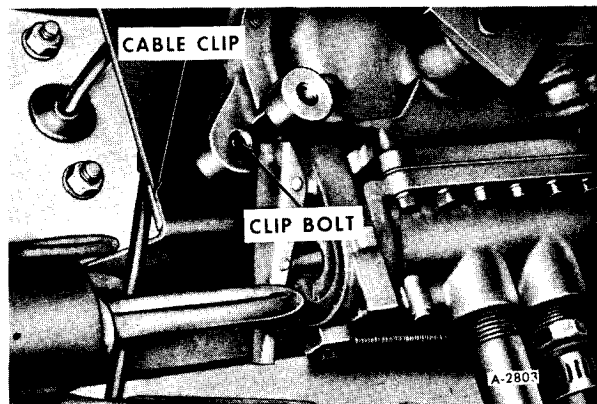

Figure 10
15. Install clip on accelerator cable at back of windshield wiper motor as shown in figure 10.